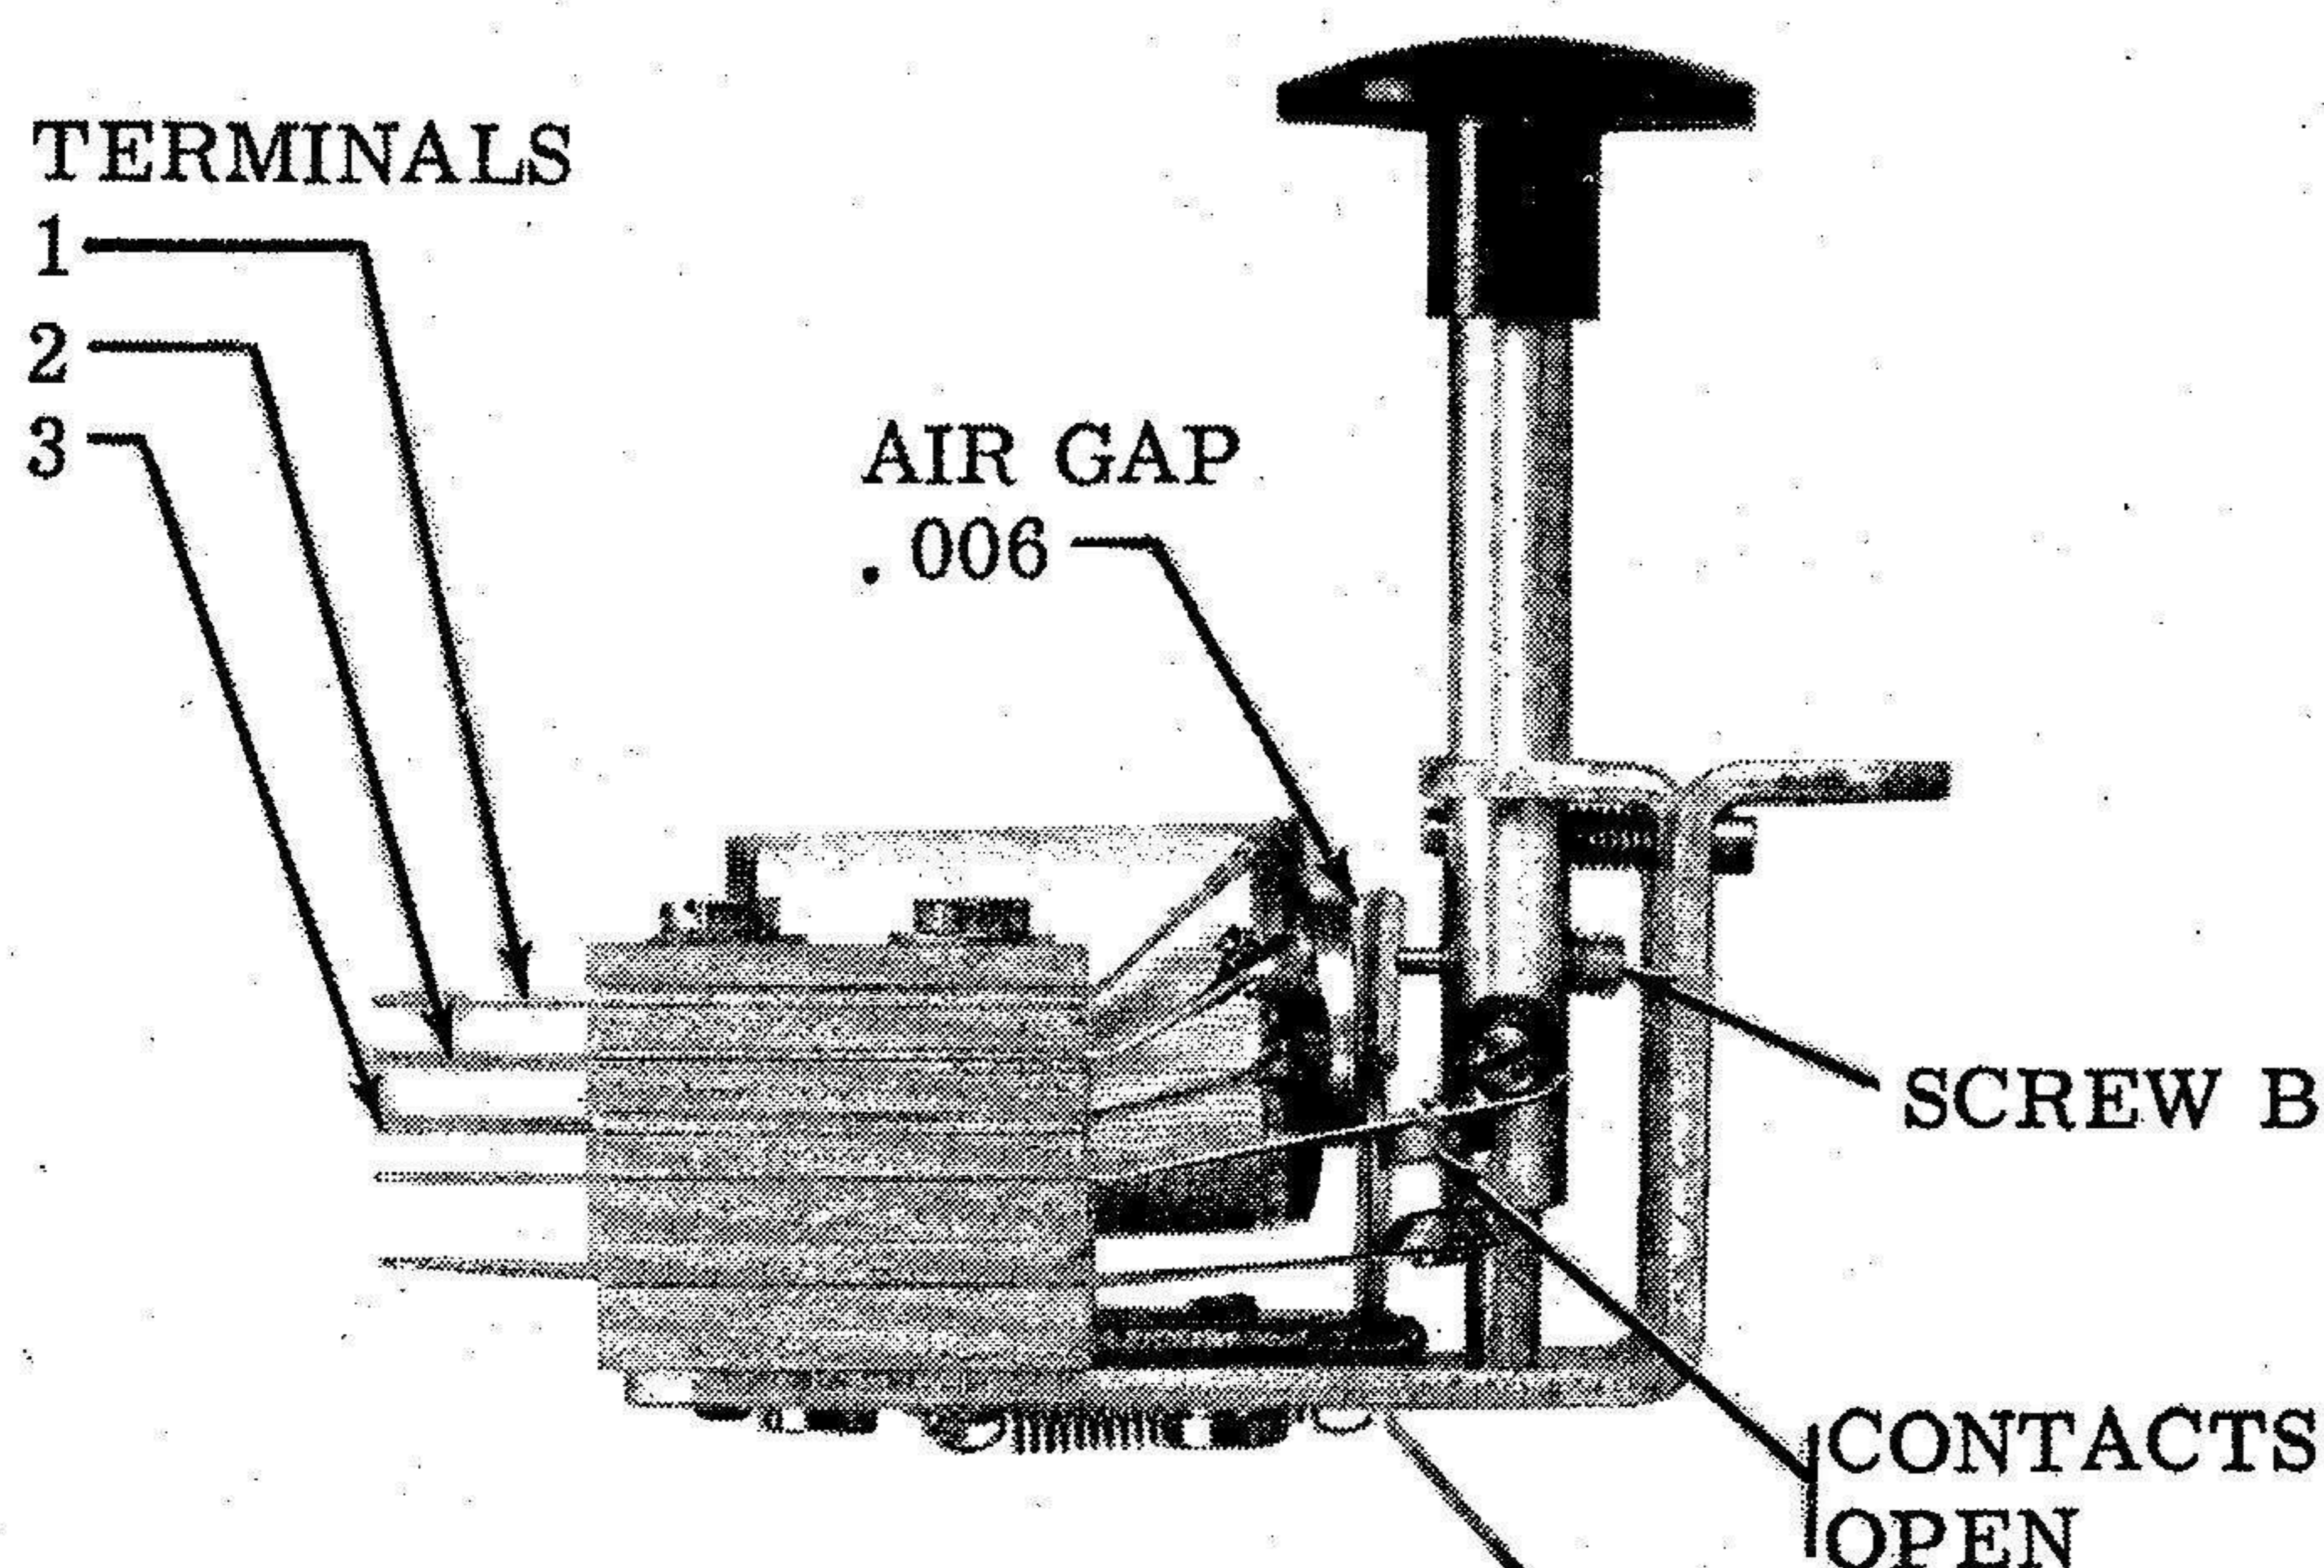

Figure 9. Relay in "Up" Position - Contacts Open
- With the relay up, check that the air gap is set to .006 inches by use of proper feeler gages. See figure 9. Air gap can be reset by adjusting lower screw "B". The glyptal sealing the adjusting screw should be softened with thinner before re-setting. The screw should be resealed with glyptal after adjustment.